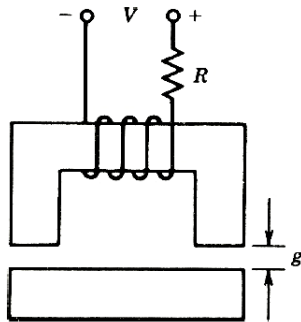

FIGURE P3.7
- 3.7** The electromagnet shown in Fig. P3.7 can be used to lift a sheet of steel. The coil has 400 turns and a resistance of 5 ohms. The reluctance of the magnetic material is negligible. The magnetic core has a square cross section of 5 cm by 5 cm. When the sheet of steel is fitted to the electromagnet, air gaps, each of length $g = 1$ mm, separate them. An average force of 550 newtons is required to lift the sheet of steel.